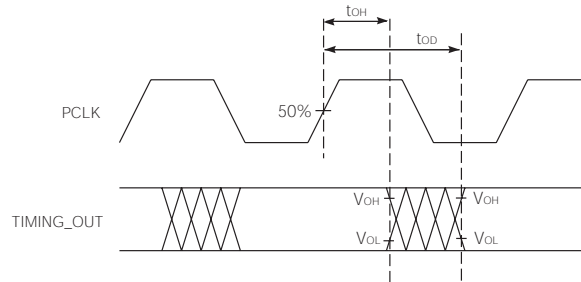

Figure 2-1: PCLK to TIMING_OUT Signal Output Timing
5. With PCLK phasing delay set to nominal (zero offset), each increment of the clock phasing adjustment decreases output hold time and delay time by a nominal 700ps. The times t_{OD} and t_{OH} are defined in Figure 2-1.